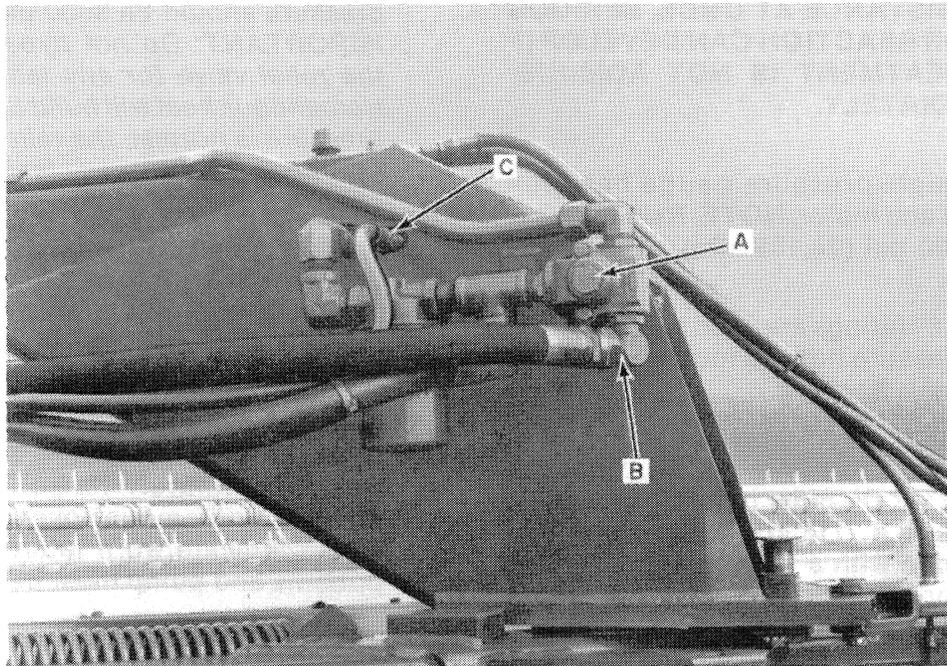

FIGURE 1
3. Remove the relief valve, A, Figure 1, from the housing. Clean the valve and inspect for wear or contamination. Inspect O-rings for possible wear and replace if worn or damaged. Reinstall valve or replace and then test machine.
JIC - 1-5/16" fittings are used at B, Figure 1, on high pressure hose to motor and elbow on relief valve housing.
8. If pump oil volume is normal, check volume at motor case return line. Remove line at C, Figure 1.